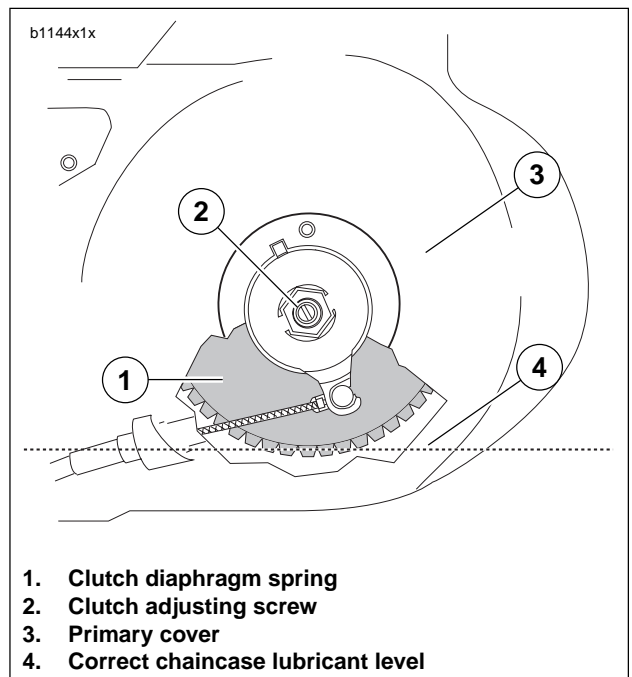

Figure 1-21. Fluid Level
5. See Figure 1-21. Add SPORT-TRANS FLUID (Part No. 99896-88 quart size; Part No. 99895-88 gallon size) as required until fluid level (3) is even with bottom of clutch diaphragm spring (2).